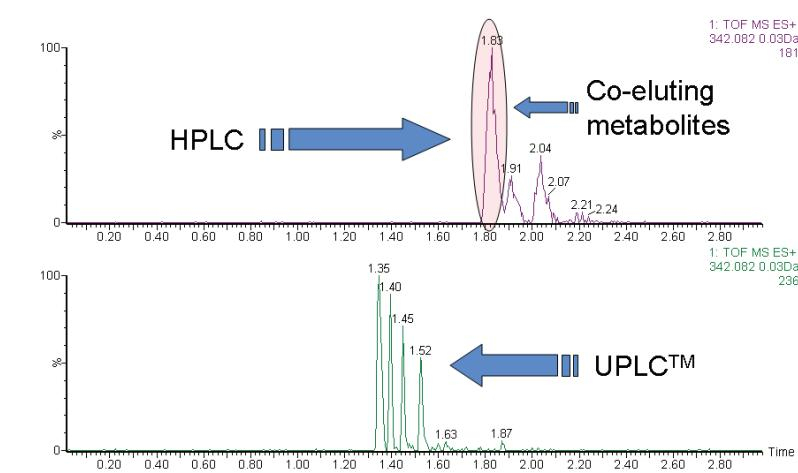

Figure 2. Comparison of UPLC vs. HPLC for the hydroxylated metabolites of Midazolam in vitro.
- With UPLC it can be observed that 4 hydroxylated metabolites of Midazolam are detected vs 3 hydroxylated metabolites of Midazolam (Figure 2)